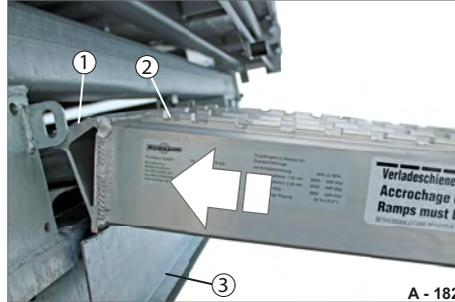

Fig. 193 Sliding in the ramp planks
- ▶ Open the flap (Fig. 193/3) of the ramp plank bay - see page 205.
- ▶ Set an end of the ramp plank with into the ramp plank bay with the run-on plate (Fig. 193/1) in front.